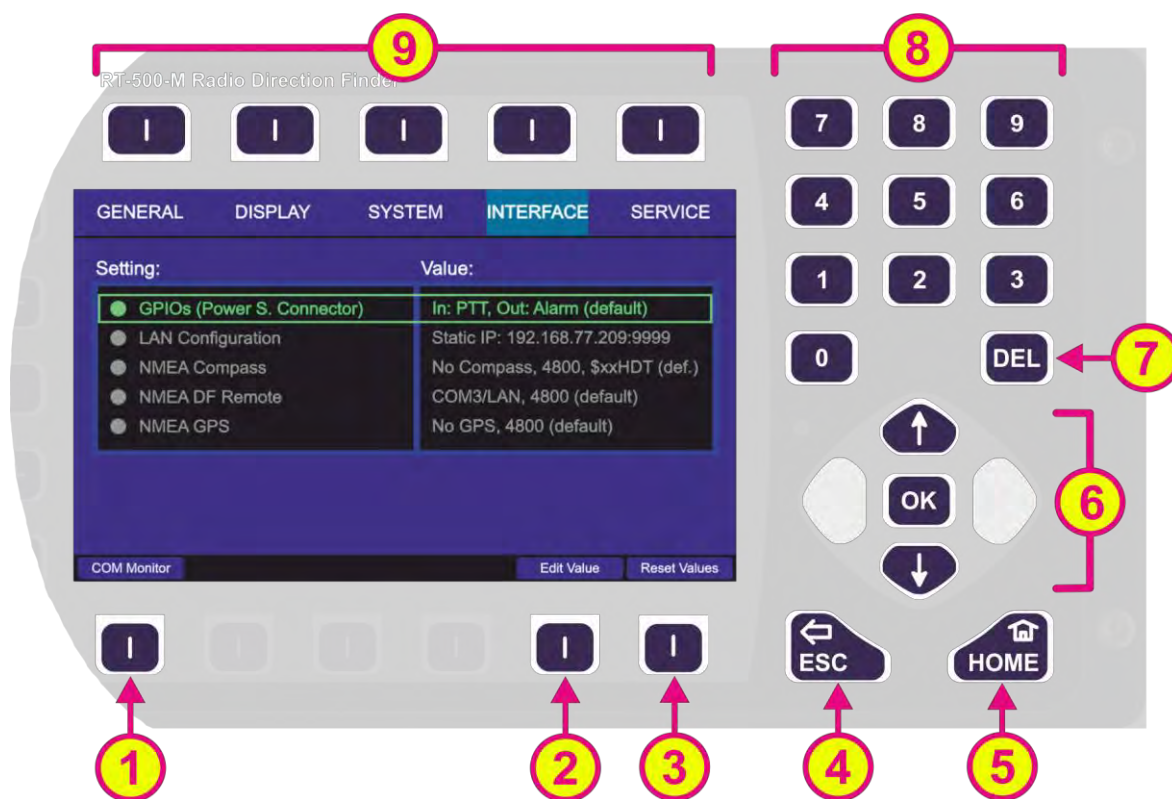
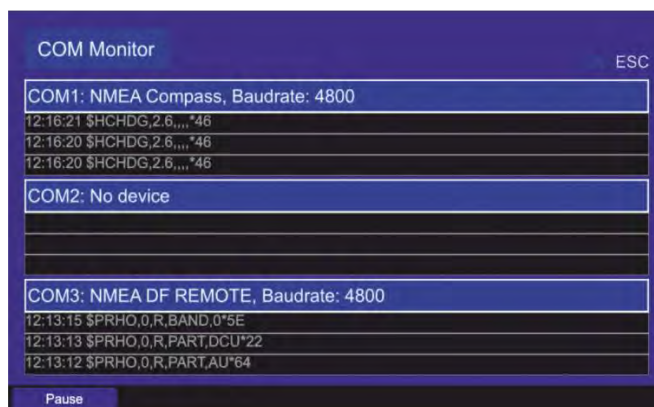

Fig. 139 Setup page. Interface settings
Fig. 140 COM monitoring dialog
- To open the dialog for COM monitoring press the “COM Monitor” hotkey (Fig. 139, position 1). Following dialog opens (s. Fig. 140).
- Press the button “OK” or hotkey “Edit Value”, while the setting “NMEA DF Remote” is marked (s. Fig. 139).
- Press the button “OK” or hotkey “Edit Value”, while the setting “LAN Configuration” is marked (s. Fig. 139).